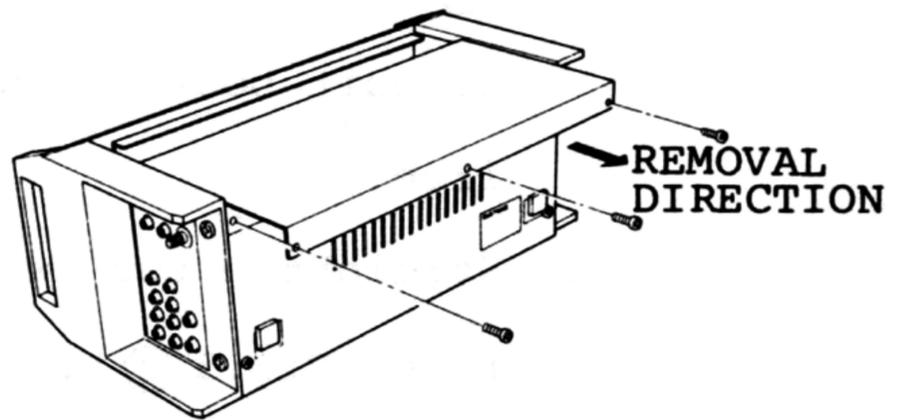

Fig.1
- 1) Remove three screws as shown in Fig.1.